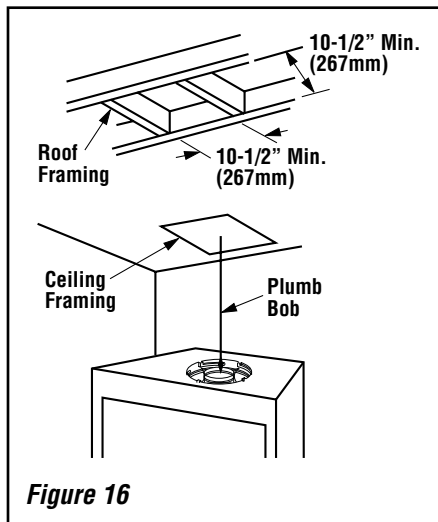

Figure 16
A. Frame ceiling opening - Use a plumb line from the ceiling above the appliance to locate center of the vertical run. Cut and/or frame an opening, 10-1/2" x 10-1/2" (267mm x 267mm) inside dimensions, about this center mark (**Figure 16**).
If the vertical route is to penetrate a ceiling, use plumb line to locate the center above the appliance. Cut and/or frame an opening, 10-1/2" x 10-1/2" (267 mm x 267 mm) inside dimensions, about this center (refer to Figure 16 on Page 14).